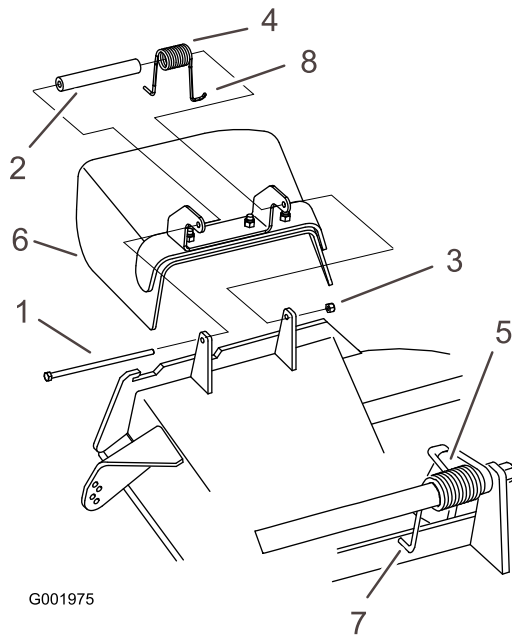

Figure 77
1. Remove the locknut, bolt, spring and spacer holding the deflector to the pivot brackets (Figure 77). Remove damaged or worn grass deflector.
Note: Make sure the **L** end of spring is installed behind deck edge before installing the bolt as shown in Figure 77.
3. Install bolt and nut. Place the **J** hook end of spring around grass deflector (Figure 77).